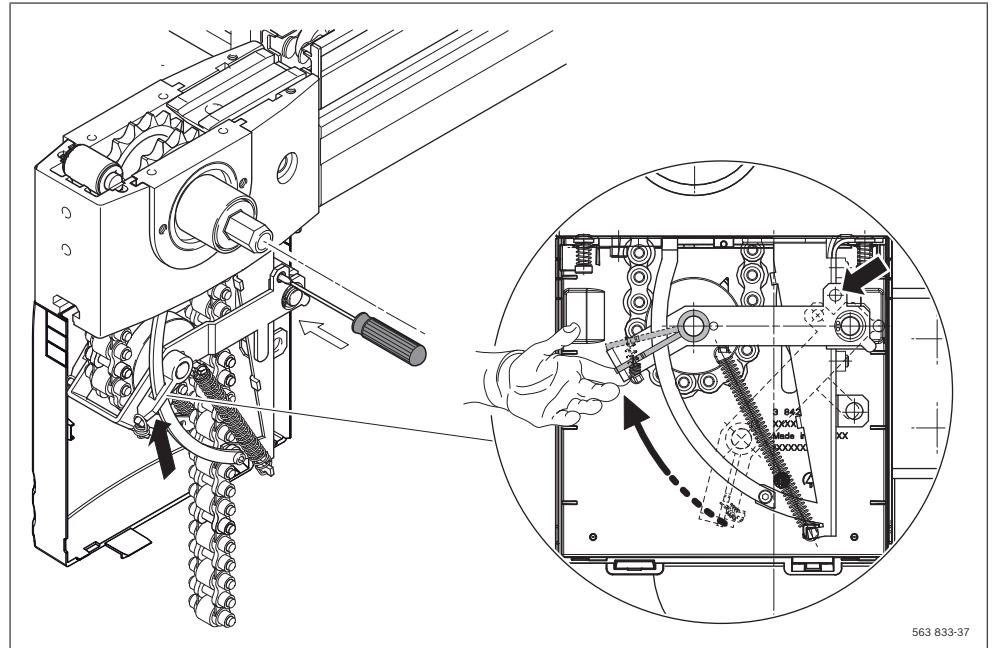

Fig. 29: Fixing the chain tensioner: "small" drive head, chain tensioner reversible
- Pull the chain tensioner (X) up and fix it in its end position by turning it 90° clockwise. (☞ Fig. 29, item 2).
- Loosen the chain tensioner by turning it 90° counterclockwise. (☞ Fig. 29, item 3).